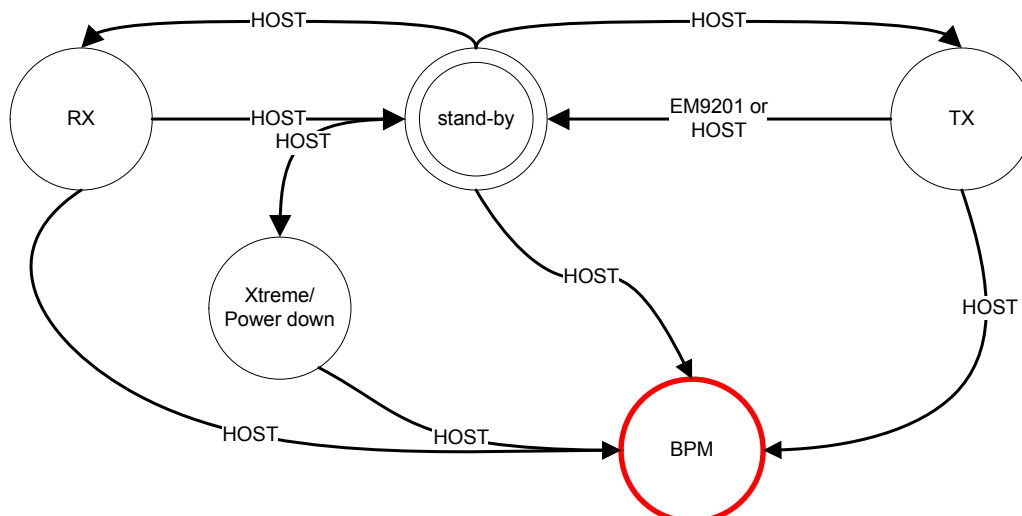

Figure 2 Simplified system state diagram.
This part describes in which modes the EM9201/02 can operate in and the way to control the changes in between them - Figure 2 shows a corresponding state diagram. As described in §3.1 on page 11 the EM9201/02 becomes functional at the end of the start-up procedure. At this point the change in between the states is mainly due to external commands (through the SPI interface). Some of the transitions are also automatic, e.g. for a one-shot transmission.
3.2.6 DC/DC Converter modes (not shown in Figure 2)
3.2.7 Standby low power (not shown in Figure 2)